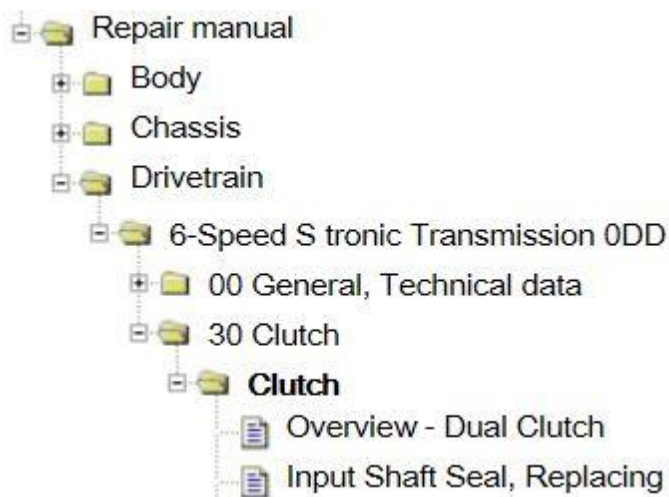

Figure 3. Location of repair manual directions.
2. Replace the oil seal according to the repair manual. Located in ELSA under *Drivetrain >> 6-Speed S tronic Transmission 0DD >> 30 Clutch >> Input Shaft Seal, Replacing* (Figure 3)